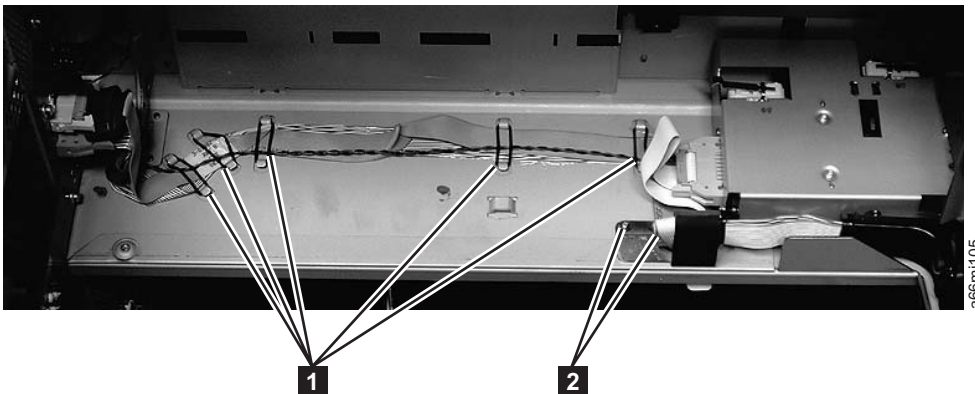

Figure 8-110. Cable assembly from the Operator Control Panel to the Backplane Connector Board
- a. Remove the cable retainers (see **1** in Figure 8-110).
- b. Remove the 2 screws from under the cable guide (see **2** in Figure 8-110) near the I/O Station lock assembly.